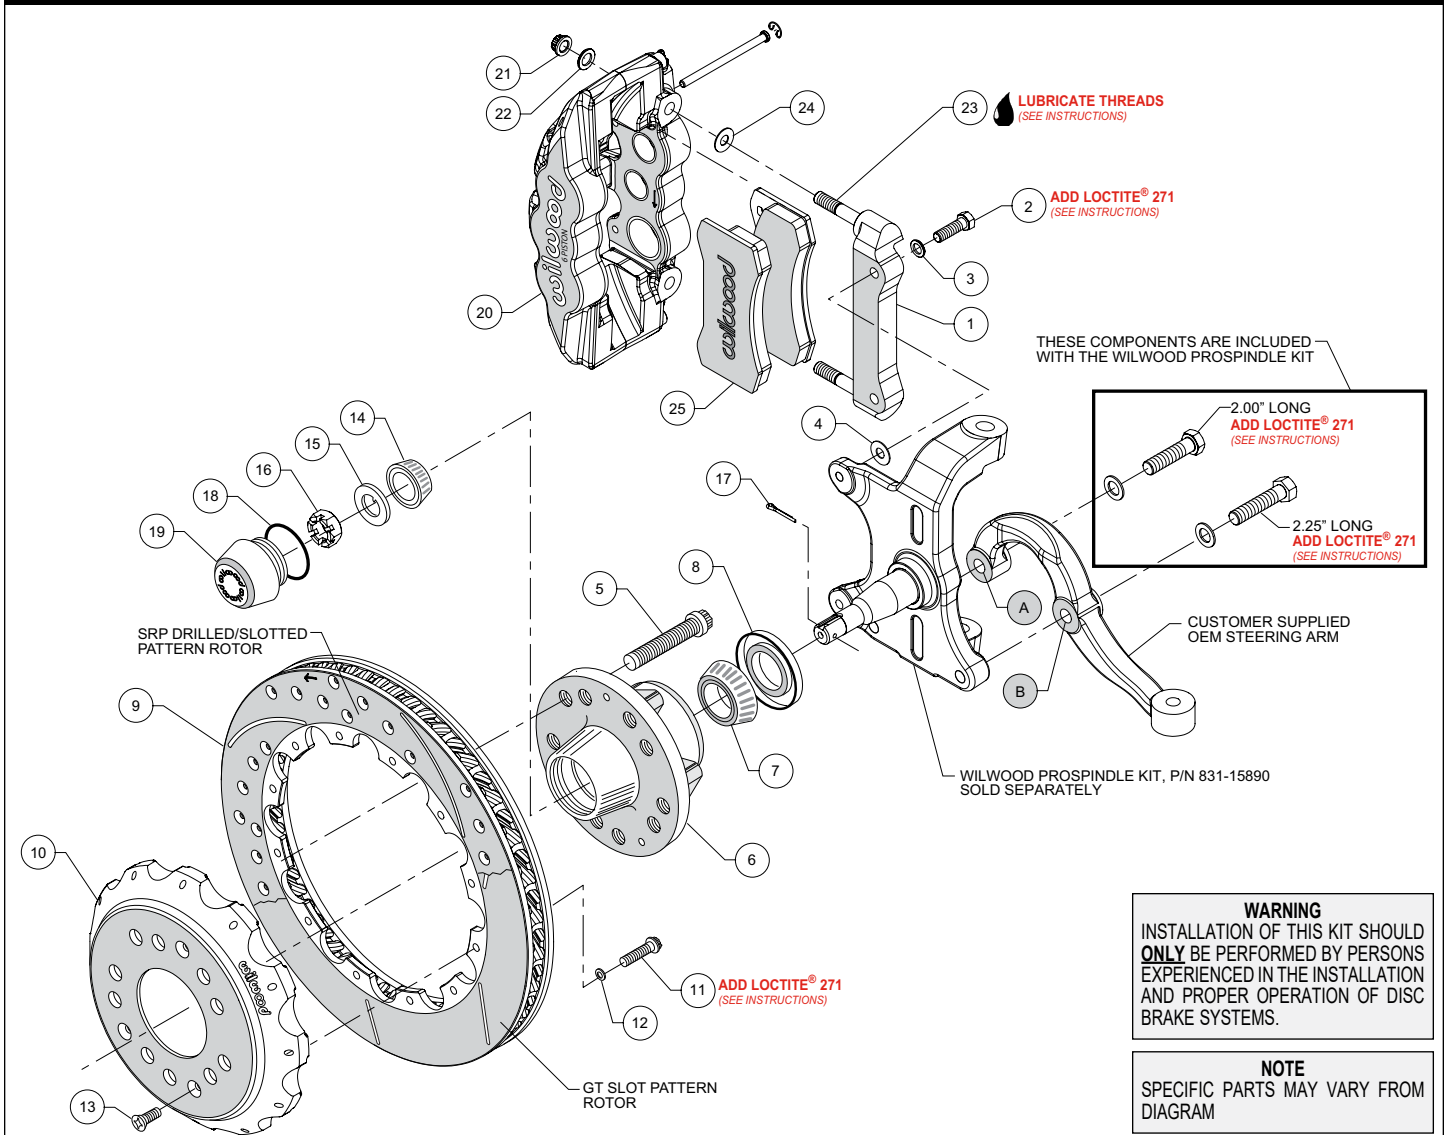
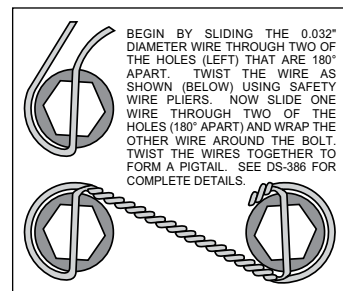

Figure 1. Typical Installation Configuration
Figure 3. Safety Wire Diagram
NOTE: Numbers in parenthesis refer to the parts list and Figure 1 on the preceding pages.
•**NOTE:** Wilwood's AFX ProSpindle kit includes bolts and washers to mount the steering arm (customer supplied) to the spindle. The various bolts are identified by length in the following instructions and in Figure 1.
•Orient the steering arm, and identify the hole marked "A" as shown in Figure 1. Attach arm to spindle using 2.00" long bolt and washer (from ProSpindle kit), Figure 1. Finish attaching the steering arm through the hole marked "B", using 2.25" long bolt and washer (from ProSpindle kit), Figure 1. Temporarily tighten the mounting bolts. **NOTE:** The steering arm must fit squarely against the mounting points on the spindle. Inspect for interference from casting irregularities, machining ridges, burrs, etc. Remove bolts one at a time, apply red *Loctite*® 271 to threads, and torque to 77 ft-lb.
•The caliper mount bracket (1) should initially be installed with clean, dry threads on the mounting bolts. Orient the bracket as shown in Figure 1, and install using bolts (2) and washers (3). Initially place one .035" thick shim (4) on each bolt between the bracket and spindle, Figure 1 and Photo 1. Temporarily tighten the mounting bolts. **NOTE:** The bracket must fit squarely against the mounting points on the spindle. Inspect for interference from casting irregularities, machining ridges, burrs, etc. Later, after the caliper alignment has been checked, the mount bolts will be secured using red *Loctite*® 271.
•Install wheel studs (5) into the hub (6), Photo 2. Torque to 77 ft-lb. **NOTE:** There are two five lug patterns in the hub (5 x 4.50 and 5 x 4.75). Ensure the correct hub stud pattern is being used to fit the wheel application.
•Pack the large inner bearing cone (7) with high temperature disc brake bearing grease (available from your local auto parts store) and install into the backside of the hub (6), Photo 3.
•Install the grease seal (8) by pressing into the backside of the hub (6), flush with the end of the hub, Photo 3.
•Pack the small outer bearing cone (14) with high temperature disc brake bearing grease and install into front of hub (6). Slide the hub assembly onto the spindle. Secure using spindle washer (15) and spindle nut (16), Photo 4. Bearing adjustment: Tighten the nut while turning the hub. When there is a slight bind on the bearings, they are seated correctly. Back the nut off about 1/6 to 1/4 of a turn, or sufficiently to allow .001" to .007" end play. **WARNING:** Failure to back off adjusting nut could cause bearing to run hot and be damaged, which could cause the wheel to lock or come off. Install a new cotter pin (17).
•Screw dust cap (19) into hub (6). Friction created by the o-ring (18) on the dust cap keeps it from unscrewing. **NOTE:** The O.D. of the existing OEM spindle washer may be larger than the I.D. of the dust cap not allowing it to seat against the hub face. Therefore, use the spindle washer (15) supplied with the kit instead of the OEM washer.
•Orient the rotor (9) and the hat (10) as shown in Figure 1 and Photo 5. Attach rotor to hat using bolts (11) and washers (12). Using an alternating sequence, apply red *Loctite*® 271 to the threads and torque bolts to 155 **in-lb**. For an added measure of security, the bolts may be safety wired using standard 0.032 inch diameter stainless steel safety wire as shown in Figure 3. Refer to Wilwood's data sheet DS-386 (available at www.wilwood.com/Pdf/DataSheets/ds386.pdf) for complete safety wire installation instructions.
•Slide the hat/rotor assembly (10 and 9) onto the hub (6) taking care to align the small countersunk holes in the hat with the small threaded holes in the hub. **NOTE:** *The hat must fit flush against the hub face or excessive rotor run out may result.* Install three flat head screws (13) through the small holes in the hat, Photo 6, and torque to 85 **in-lb**.
•**NOTE:** *This kit contains distinct right and left hand calipers that must be mounted in a specific direction, as described below.* Lubricate the caliper mounting studs (23) with lightweight oil. Initially place one .030" thick shim (24) on each stud between the caliper and the bracket, as shown in Figure 1 and Photo 7. Mount the caliper (20) onto the bracket (1) using lock nuts (21) and washers (22), Figure 1. Temporarily tighten the lock nuts. Ensure that the caliper is mounted so the largest pistons are at the rotor exit end of the caliper, in relation to the direction of the rotor. View the rotor through the top opening of the caliper. The rotor should be centered in the caliper, Photo 8. If not, adjust by adding or subtracting shims (4) between the bracket and the spindle. Always use the same amount of shims on each of the two mounting bolts. Once the caliper alignment is correct, remove the bracket mounting bolts (2) one at a time, apply red *Loctite*® 271 to the threads, and torque to 40 ft-lbs.
•Remove the caliper (20), then remove the two pad retaining pins from the caliper by carefully popping out the pin retaining clips and sliding out the pins. Insert the brake pads (25) into the caliper from the bottom, Figure 1 and Photo 9. With the friction material facing the rotor, secure the brake pads in place with the pad retaining pins and clips, Photo 10. Reinstall the caliper onto the caliper mounting bracket and temporarily tighten the lock nuts. Check that the top of the brake pad is flush with the outside diameter of the rotor, Photo 11. If not, adjust by adding or subtracting shims (24) between the caliper and the bracket. After the caliper pad height is set, torque the caliper lock nuts (21) to 47 ft-lb.